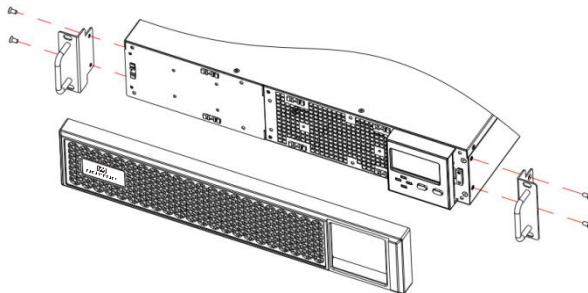

Fig.5-2 Removing the front plastic bezel cover
1. Remove the front plastic bezel cover gently and removver two brackets screws, as shown in Fig.5-2.